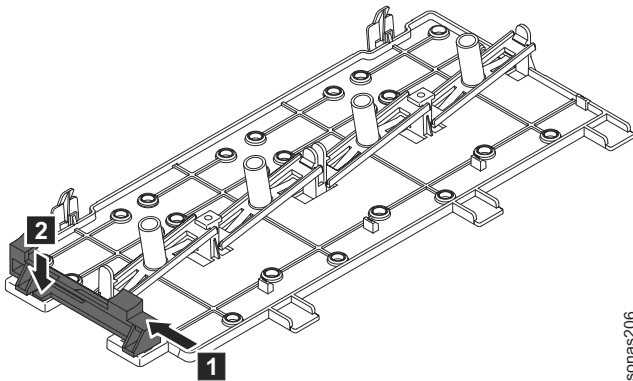

Figure 26. Sliding the controller retention bracket inward and pressing the release tab
- 4) Install the controller retention bracket from step i by sliding the bracket inward **1** and pressing down the release tab into place **2**. See Figure 26.